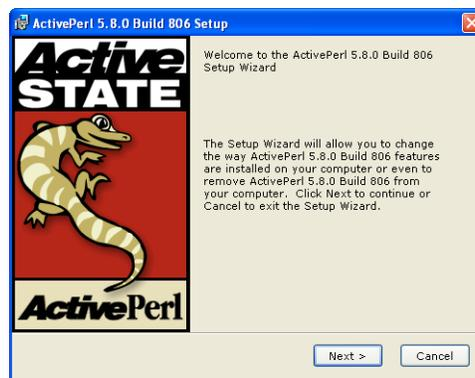

Figure 3-21: ActivePerl Setup Window
4. The ActivePerl setup window (Figure 3-21) is displayed. Click Next to start the installation.